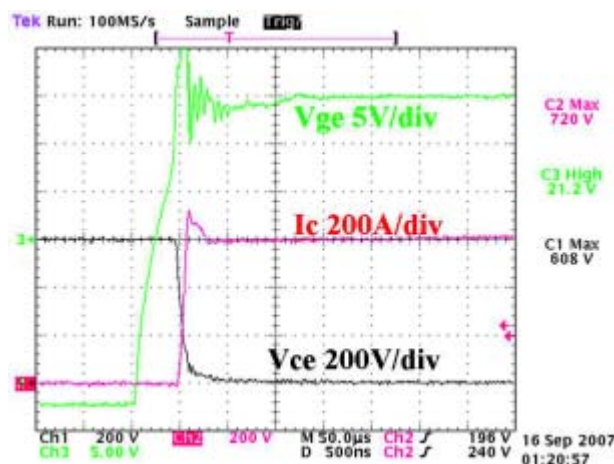
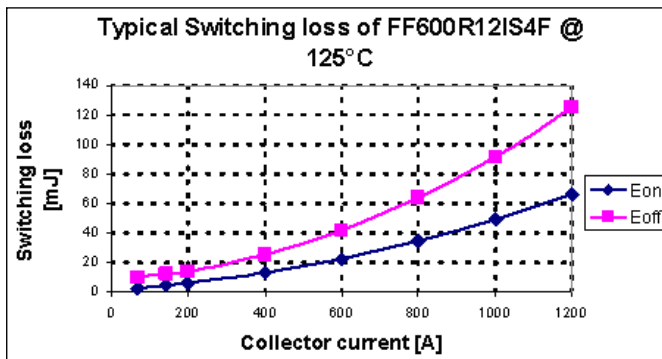
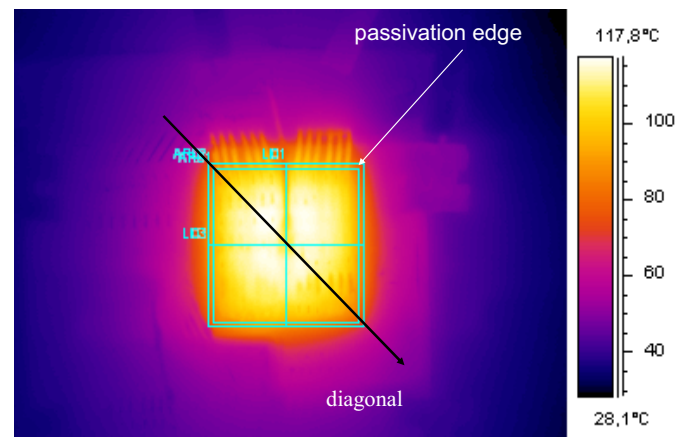

Figure 1: Typical turn-on behavior of 1200-V, 600-A IGBT S4 Chip with 360-A SiC Schottky diodes ( $T_j = 25^\circ\text{C}$ ,  $R_{g\_on} = 0.5\ \Omega$ )
Figure 2: Typical switching loss of PrimePACK™ 2 module FF600R12IS4F with SiC Schottky diodes
Figure 1: IR camera image of a Trench IGBT for 150A in a SEMIX® module on a water-cooled heat sink at 9°C.
Figure 1 shows the typical switching behavior of SiC Schottky diodes in combination with Infineon's fastest IGBT chip, the S4 chip based on IGBT2 technology.
Due to the absence of a reverse-recovery charge of SiC Schottky diodes, the turn-on gate resistor of the IGBT can be reduced dramatically to reduce turn-on losses (in the example,  $0.5\ \Omega$  is used). The reverse-recovery current, as seen in Figure 1, is reduced dramatically in comparison to a Si-based free-wheeling diode. Figure 2 shows the typical switching loss of the module:
Calibration is done using homogenous heating of the device in a furnace or on a hotplate. During active operation, however, the power chip is not heated homogenously, but displays a lateral temperature gradient (Figure 1). For effective cooling and large chip dimensions, this can give rise to temperature differences of 40°C and more. The question is what geometrical significance the temperature determined using the VCE(T) method actually has.
Figure 2: Comparison of the IR camera reading along the chip diagonal with the corresponding temperature profile from the simulation. An overview of all results is also shown here.
A study was conducted to investigate this question more closely [1]. For the case described in Figure 1, which refers to an IGBT loaded with a constant power loss of 273W, a VCE(T) measurement was carried out and resulted in a virtual junction temperature of 108.5°C. To illustrate the significance of this temperature reading in geometric terms, a three-dimensional model of the module set-up including heat sink was generated. By adapting the effective thickness of the thermal paste layer and the heat transfer coefficient between heat sink and cooling water, a good approximation of the thermal behaviour of the real system was achieved. Figure 2 shows a comparison of the measured and simulated chip temperature along a diagonal section through the chip center. The gate region which was not biased with power loss and the shading of the chip temperature by the wire bonds, which can be observed in the measurement, were not taken into account in the simulation.